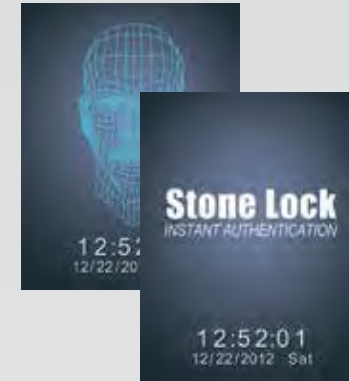

Fig 2.02-1
a) When you power up Stone Lock® Pro, the device goes through an initial boot sequence. Wait until you see the animation start to cycle. **(Fig. 2.02-1)**